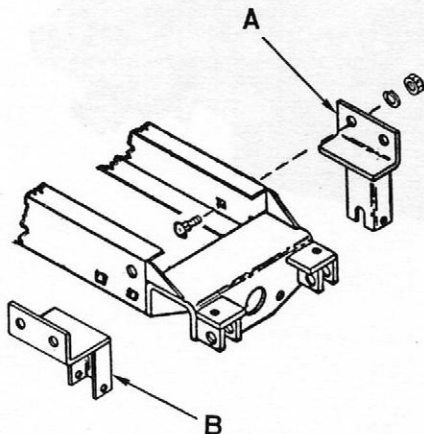

Figure 1. Front Hanger Brackets
1. Attach the two front hanger brackets (A and B, Figure 1) loosely to the forward set of square holes on each side of the tractor frame channels using the four $\frac{3}{8}$ " carriage bolts, lockwashers, and nuts which are connected to the brackets. The bracket (B) with the greater offset is attached to the right hand side of the tractor.